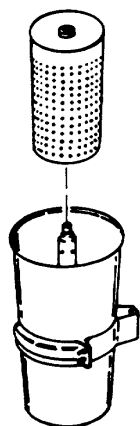

FIGURE 4
- (2) See Figure 4. Insert filter element into container. Rotate element slightly while inserting to make it slide down center post more easily.